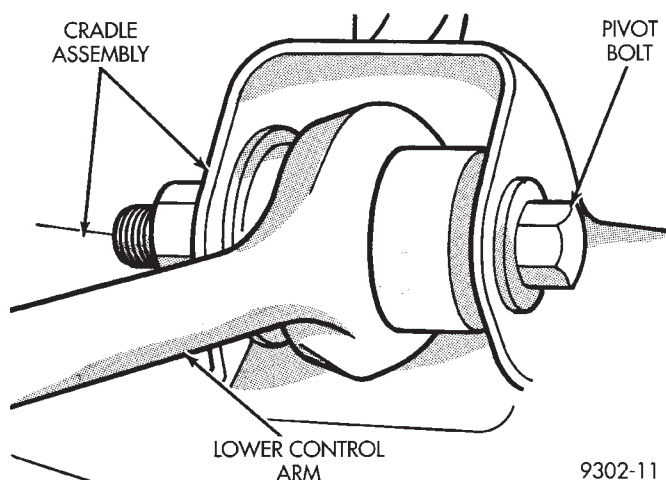

**Fig. 48 Lower Control Arm Pivot Bushing Bolt**
(4) Install the wheel and tire assembly.
(5) Tighten the wheel mounting stud nuts in proper sequence until all nuts are torqued to half specification. Then repeat the tightening sequence to the full specified torque of 129 N·m (95 ft. lbs.).
(6) Lower the vehicle to the ground so the suspension is supporting the full weight of the vehicle (control arm at design height). Tighten the lower control arm pivot bushing attaching bolt (Fig. 48) to a torque of 142 N·m (105 ft. lbs.).